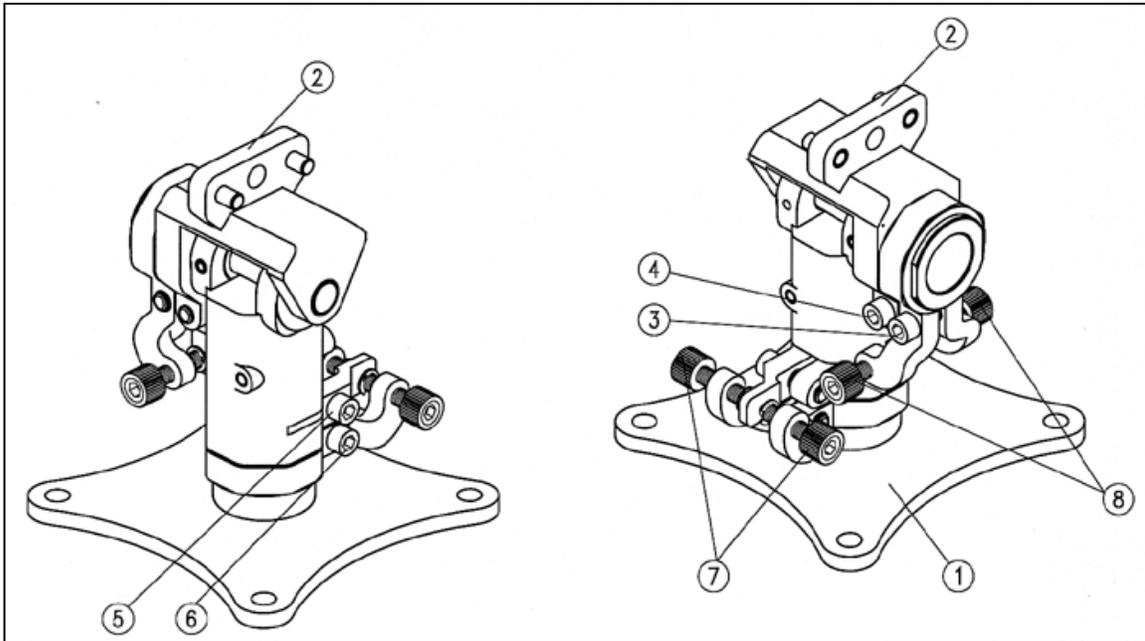
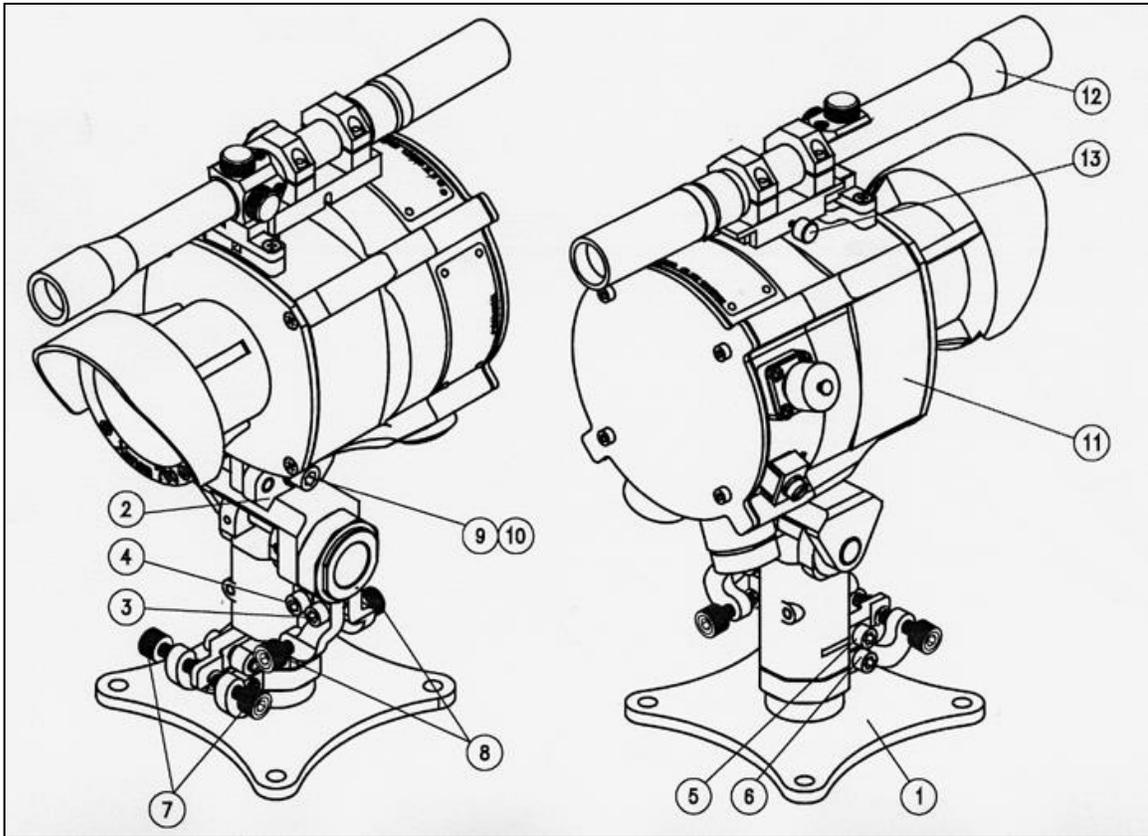
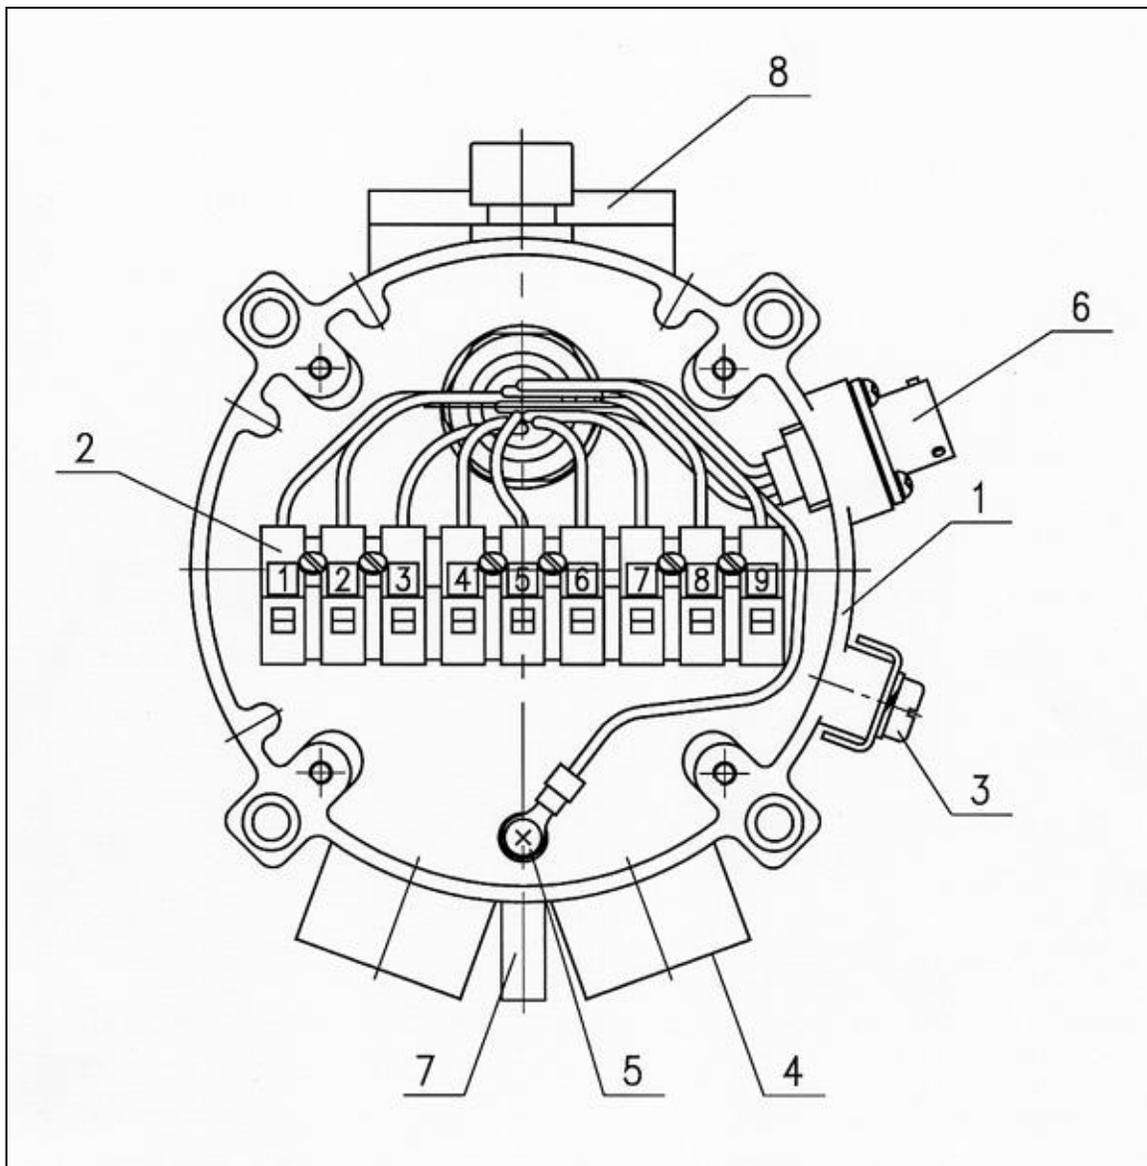

Figure 4: Tilt Mount
Figure 5: Detector and Tilt Mount Assembly
Figure 6: Detector with Cover Removed
(Figure 4 and Figure 5)
(Figure 5 and Figure 6)
- 1** Remove the 4 socket-head-screws (Item 14, Figure 5) that secure the detector back cover (Item 15, Figure 4). The chamber is now exposed.
- 2** Remove the protective plug mounted on the detector conduit/cable entry inlet and pull the wires through the detector inlet (Item 4, Figure 6). Use a 3/4" – 14NPT or M25x1.5 explosion-proof conduit connection/cable gland to assemble the cable/explosion-proof conduit to the detector.
- 3** Connect the wires to the required terminals (Item 2, Figure 6) according to the wiring diagram. See Detector Terminal Wiring, page 52 and Figure 9, Figure 10, Figure 11 in Wiring Option Configurations, page 67.
- 4** Connect the grounding wire to the ground screw outside detector (Item 3, Figure 6). The detector must be well grounded to earth ground.
- 5** Check the wires for secure mechanical connections and press them neatly against the terminal to prevent them from interfering while closing the cover (Item 15, Figure 5).
- 6** Place and secure the detector back cover using 4 socket-head-screws (Item 14, Figure 5).
- 1 Remove the 4 socket-head-screws (Item 14, Figure 5) that secure the source back cover (Item 15, Figure 5). The chamber is now exposed.
- 5 Check wires for secure mechanical connection and press them neatly against the terminal to prevent them from interfering while closing the cover (Item 15, Figure 5).
- 6 Place and secure the source back cover using 4 socket-head-screws (Item 14, Figure 5).